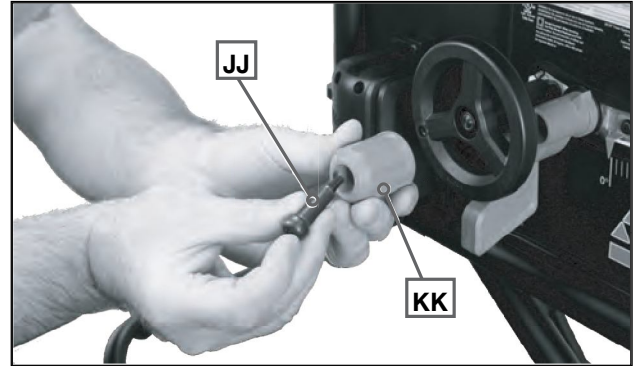

Fig. 1
1. Insert wheel handle shoulder screw (JJ) in to height adjustment wheel knob (KK) as shown in Fig. 1